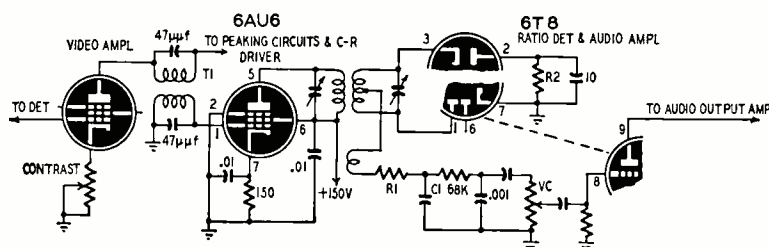
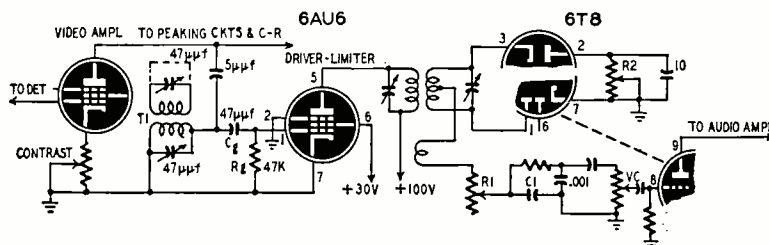

Fig. 5—Typical intercarrier sound circuit; the 6AU6 acts as straight amplifier.
Fig. 6—Modified circuit of Fig. 5 to improve rejection of unwanted AM signals.
Fig. 6 is a modified version of Fig. 5, to improve rejection of unwanted AM components. Changes are:
2. Replace coupling transformer (T1) with capacitive coupling from video amplifier plate to secondary winding as in Fig. 6. (Short-circuit primary). This
Fig. 5 shows a typical 4.5-mc intercarrier sound circuit including the sound takeoff point and audio amplifier. The function of the sound circuit is to amplify the frequency-modulated 4.5-mc. signal, reject any amplitude variations, and detect or convert the FM to audio. The most difficult problem is to effectively iron out AM so that no voice or sync buzz is present in the audio out-
3. Adjustment of the ratio detector can be done if an FM-AM signal generator and oscilloscope are available. Follow manufacturer's alignment instructions. Variation in values of R_1 , R_2 and C_1 in Fig. 5 will affect the ratio detector's ability to reject AM. For example, reducing the value of R_2 will often materially improve AM rejection of the detector but may result in decreased audio output. When R_1 or C_1 is varied a sharply defined minimum in output due to AM will be found. If a potentiometer whose total resistance is about 500 ohms is substituted for R_1 , this null point will be found and may result in an improvement in AM rejection.
In the absence of adequate equipment, it is not recommended that adjustments be made on the ratio detector. However, a considerable improvement in reduction of sync buzz can be expected by making the circuit changes shown in Fig. 6, and by correct receiver alignment.